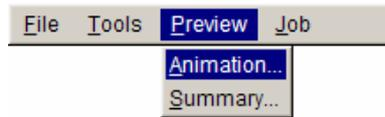

Figure 3.36 Animation menu
1. Select **Preview→Animation...** in the menu bar. See Figure 3.36.